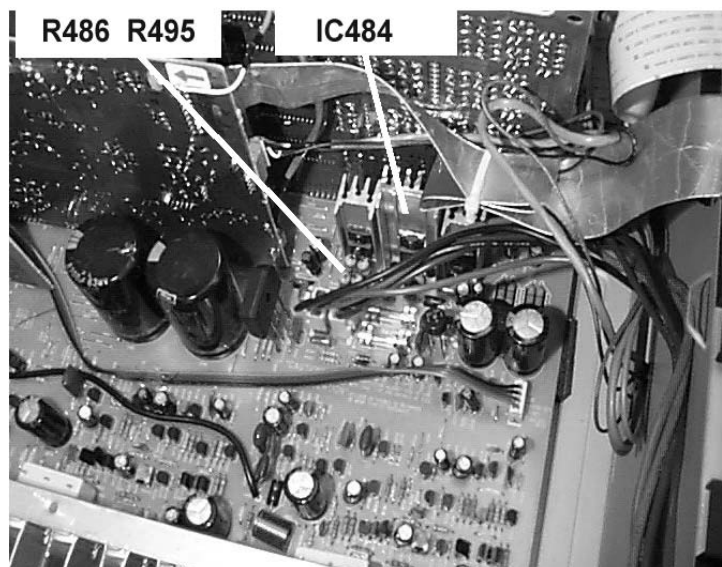

FIGURE 1
- 1) Remove the top cover, (14) Philips screws; set the unit on its side and remove the bottom cover, (8) Philips screws.
- 2) Locate R486, R495 (10 ohm 1 watt resistors) and IC484 (+5v regulator) on the MAIN PCB. See Figure 1. The parts are located near the front right corner of the MAIN PCB when viewed from the front. IC484 is attached to a rectangular aluminum heatsink.